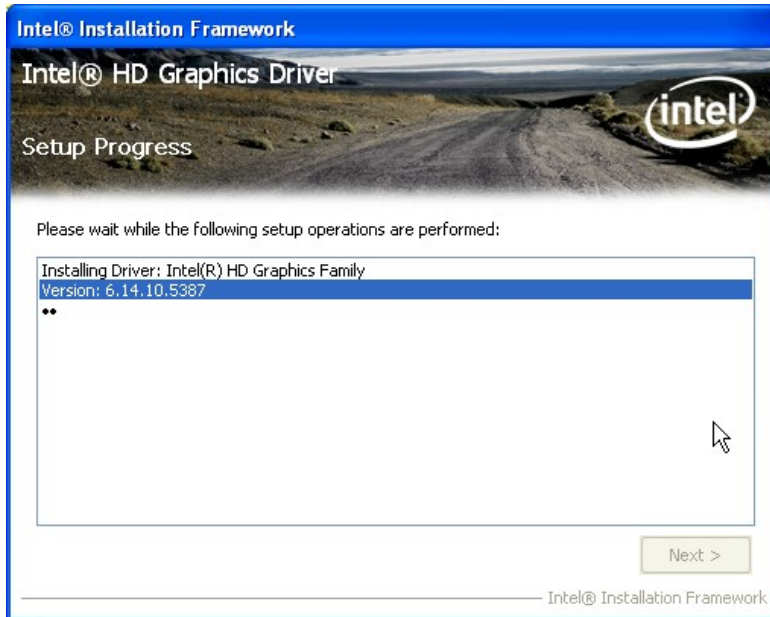

Figure 6-12: Graphics Driver Setup Operations
Step 9: **Setup Operations** are performed as shown in **Figure 6-12**.